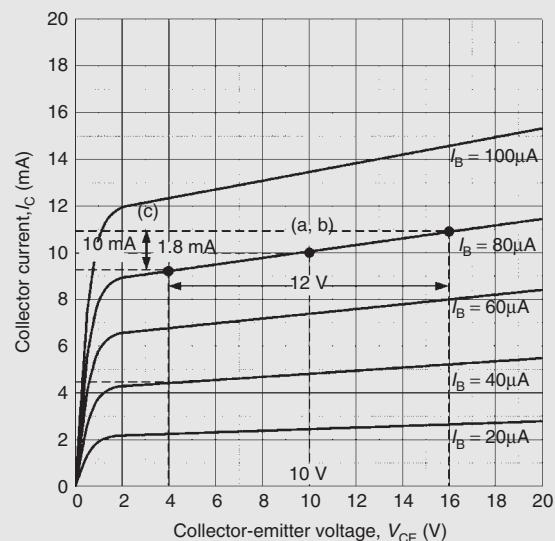

Figure 12.14
Problem 4. Figure 12.14 shows the output characteristic for an n-p-n silicon transistor. When the collector-emitter voltage is 10 V and the base current is $80 \mu A$, determine (a) the value of collector current, (b) the static value of output resistance, and (c) the dynamic value of output resistance.
- From Fig. 12.14, when $V_{CE} = 10$ V and $I_B = 80 \mu A$, (i.e. point (a, b) on the graph), the **collector current, $I_C = 10 \text{ mA}$**